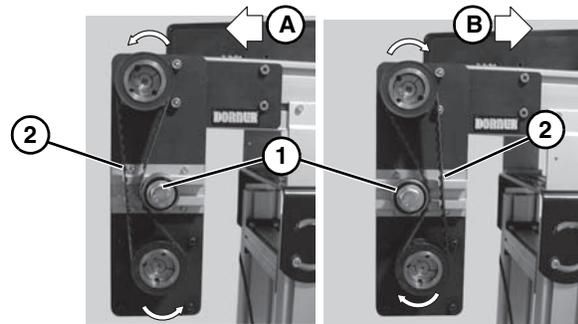

Figure 8
8. Depending on conveyor belt travel (direction A or B), locate timing belt tensioner (Figure 8, item 1) as shown. Tension timing belt to obtain 1/8" (3 mm) deflection for 6 lb (3 Kg) of force at timing belt mid-point (Figure 8, item 2). Tighten tensioner screw to 110 in-lb (12 Nm).
3. Depending on conveyor belt travel (direction A or B), locate timing belt tensioner (**Figure 8, item 1**) as shown. Tension timing belt to obtain 1/8" (3 mm) deflection for 6 lb (3 Kg) of force at timing belt midpoint (**Figure 8, item 2**). Tighten tensioner screw to 110 in-lb (12 Nm).
5. Depending on conveyor belt travel (direction A or B), locate timing belt tensioner (**Figure 8, item 1**) as shown. Tension timing belt to obtain 1/8" (3 mm) deflection for 6 lb (3 Kg) of force at timing belt midpoint (**Figure 8, item 2**). Tighten tensioner screw to 110 in-lb (12 Nm).